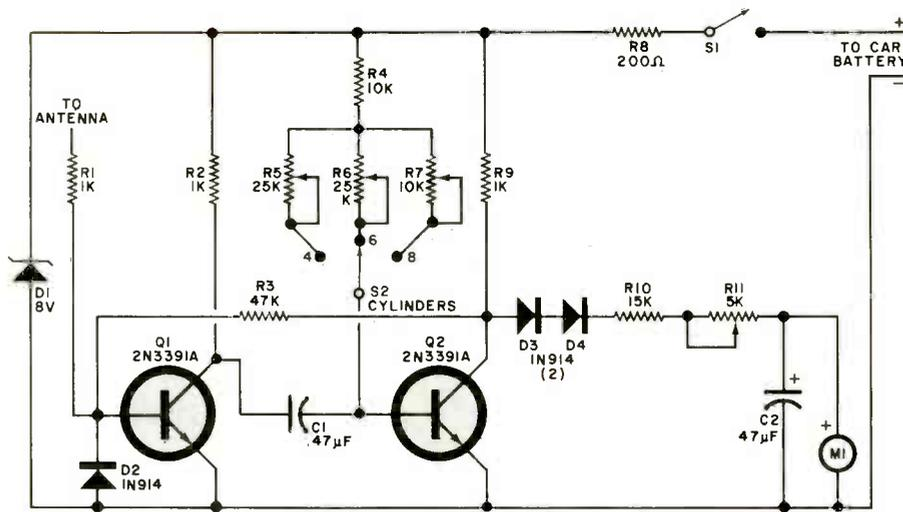

Fig. 1. The tachometer uses a two-transistor monostable circuit as a frequency-to-current converter.
**Circuit Operation.** The tachometer circuit (Fig. 1) uses a two-transistor monostable as a frequency-to-current converter. The input signal is radiated from the ignition system and picked up on a small telescoping (portable radio-type) antenna nearby; the output is displayed on a meter.